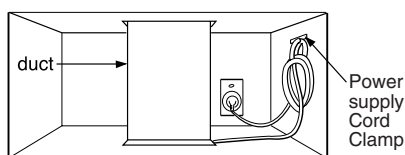

Figure 35
6. Use the power supply cord clamp to bundle the power supply cord. Install the power supply cord clamp, using a screw as shown in Figure 35, to inside of the cabinet.